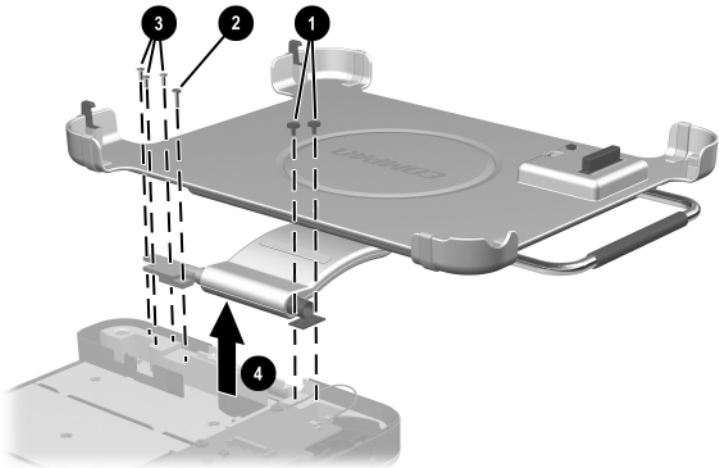

Figure 5-33. Removing the Docking Stand and Pivot Arm
- ❑ Two PM2.5 × 5.0 screws ❶ that secure the cable bracket to the bottom case (Figure 5-33)
- ❑ One PM2.5 × 12.0 screw ❷ that secures the pivot arm hinge to the bottom case
- ❑ Three PM2.5 × 6.0 screws ❸ that secure the pivot arm hinge to the bottom case
8. Remove the docking stand and pivot arm ❹.